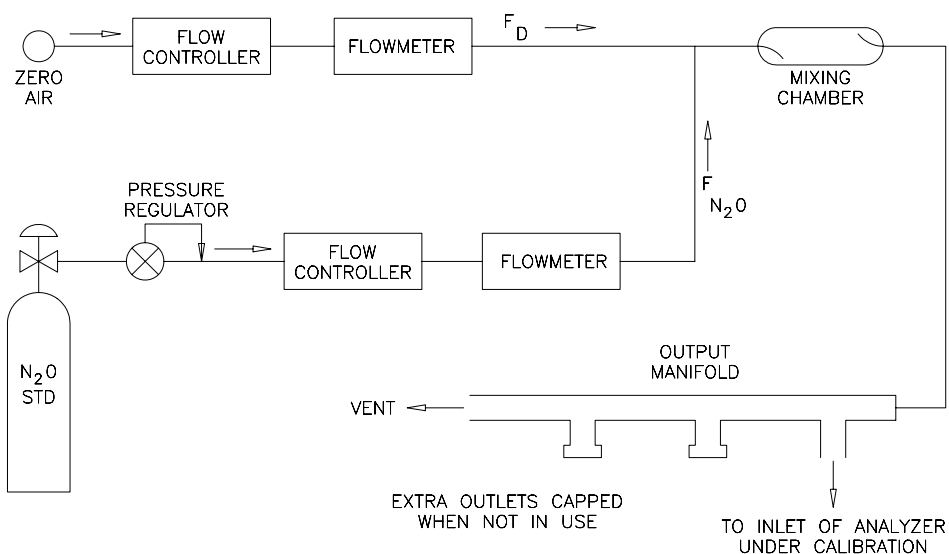

Figure 4-1. Calibration Flow Schematic
Connect the instrument and the calibration equipment as shown in Figure 4-1. If an optional sample line filter is used, the calibration must be performed through this filter. Ensure that the flow rate into the output manifold is greater than the total flow required by the analyzer and any other flow demand connected to the manifold.
2. Adjust the dilution system of Figure 4-1 so that zero air alone is present in the manifold.
2. Periodically challenging the instrument with a N₂O level of approximately 80% of the URL. The 80% URL level may be obtained by dilution of a higher level of N₂O using a system similar to that of Figure 4-1, or by using a low level cylinder of N₂O containing N₂O in